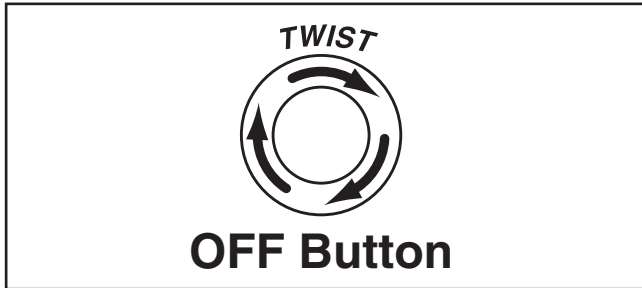

Figure 22. Resetting the OFF button.
5. Push the OFF button in, then twist it clockwise so it pops out. When the OFF button pops out, the switch is reset and ready for operation (see **Figure 22**).